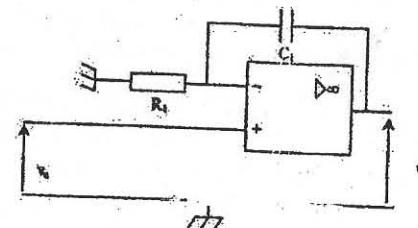

Figure 4
2.1.2. For the corrector is adopted; the structure of Figure 4 is considered. Calculate